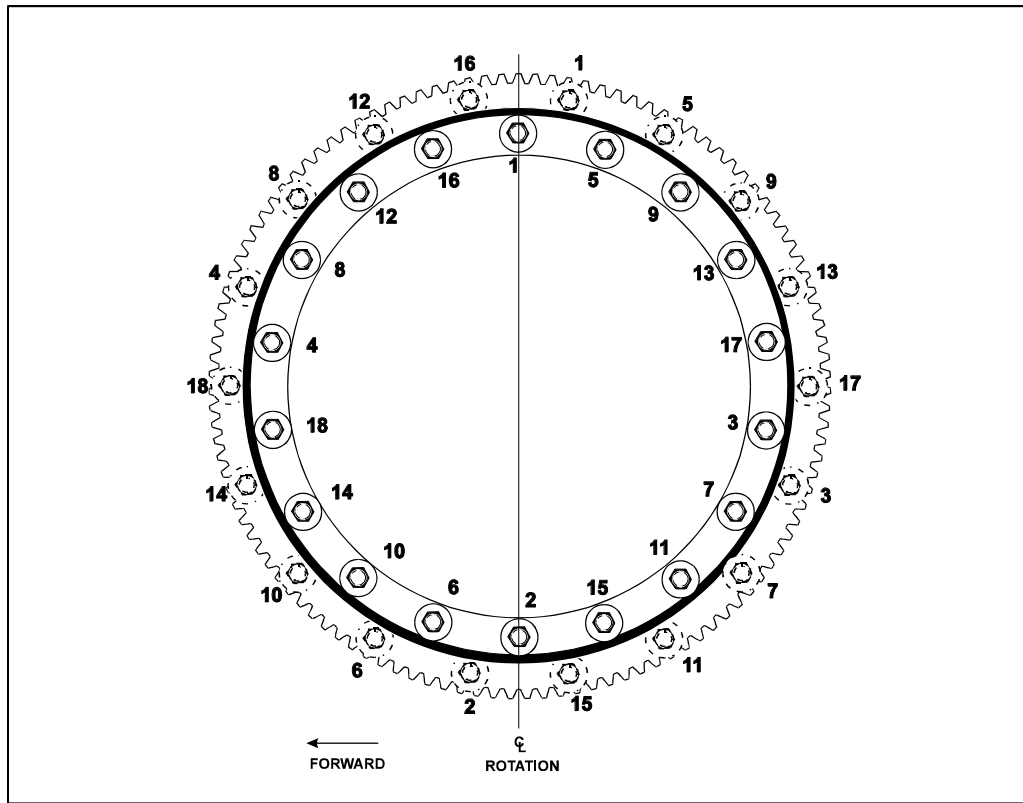

Figure 3-15. Swing Bearing Torque Sequence
- c. Refer to the Figure 3-15., Swing Bearing Torque Sequence. Swing Bearing Torquing Sequence. Spray a light coat of Safety Solvent 13 on the new bearing bolts. Then apply a light coating of Loctite #271 to the new bearing bolts, and install the bolts and washers through the frame and outer race of the bearing. Tighten the bolts to an initial torque of 240 FT. LBS. (326 Nm) w/ Loctite.
- h. Following the Torque Sequence diagram shown in Figure 3-15., Swing Bearing Torque Sequence, tighten the bolts to a torque of 240 ft. lbs. (326 Nm) w/Loctite.